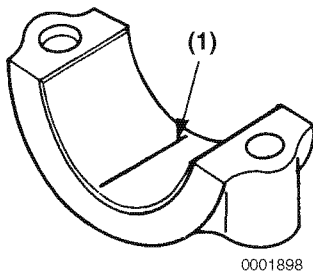

Figure 6-101
- (c) Place a piece of PLASTIGAGE® (**Figure 6-101, (1)**) along the full width of the bearing insert.